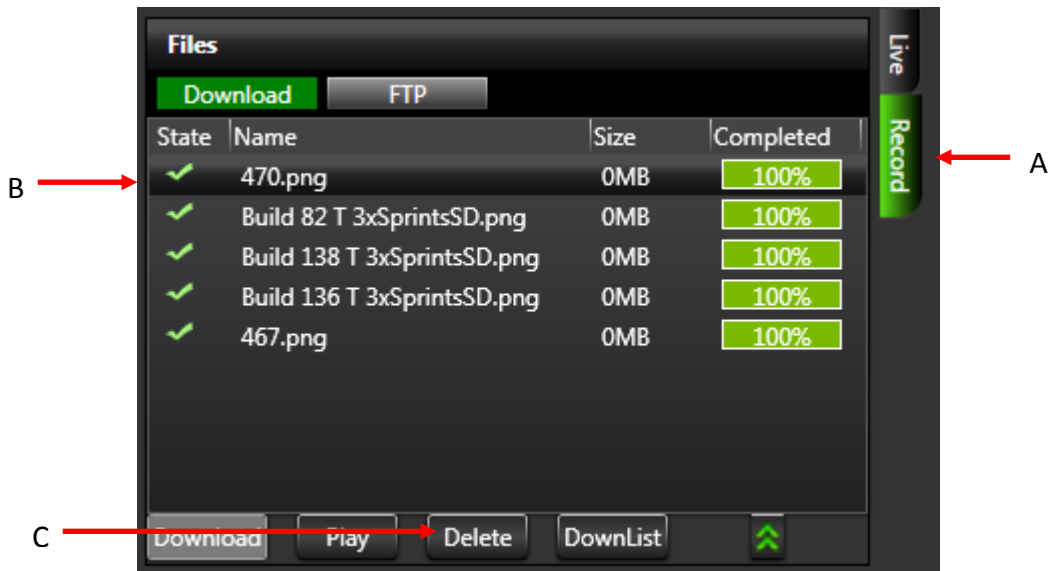

Figure 37 Delete stored content screen
1. On the TVU Receiver screen, select the Record tab **(A)** (Figure 37).